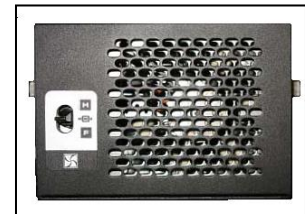

Figure 3.3.5
3.3.15 CAB HEATER – Figure 3.3.5